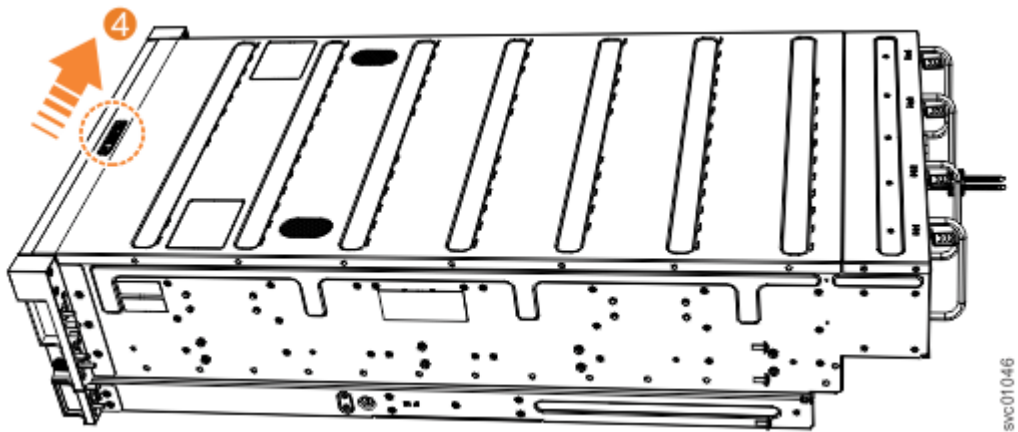

Figure 58. Locking the top cover
5. Lock the cover into position by sliding the release lever **4**, as shown in Figure 58 on page 59